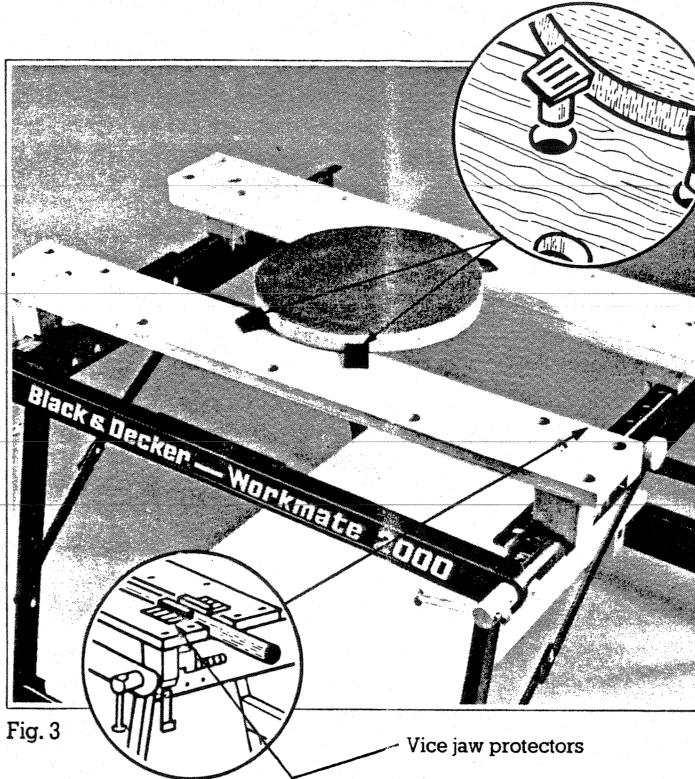
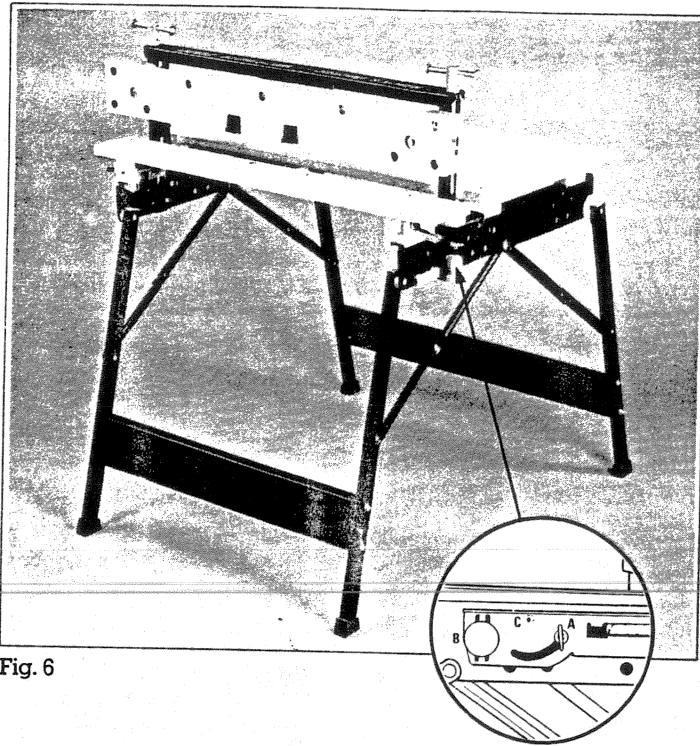
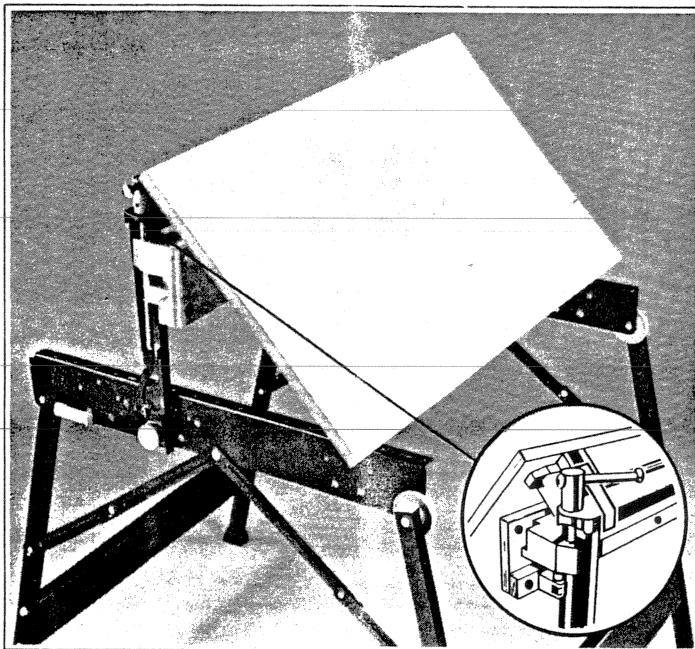

Fig. 3
Fig. 6
Fig. 9
- (A) Four vice pegs - ideal for clamping irregular shaped work pieces safely fig. 3.
- (B) Two jaw protectors - ideal for gripping pipes etc, securely either vertically or horizontally.
- (C) Two metal drawing board brackets as shown in fig. 9.
Follow the procedure shown in 90° clamping fig. 6 ensuring that the metal pins of the cam locks are released into the holes provided for 45° angles.(E) fig. 1.
The WM2000 can be converted into a drawing board with the aid of the two metal brackets provided. Follow the set up procedure in fig. 6. 90° vice adjustment. Set the swivelling vice jaw as shown in fig. 9. The removable vice jaw should be either removed as shown in fig. 9. or positioned at the front end of the parallel rails.
Lock the metal brackets into the plastic base supports (rectangular supports) of the centre board and clip over the front top cross member. As shown. fig. 9.